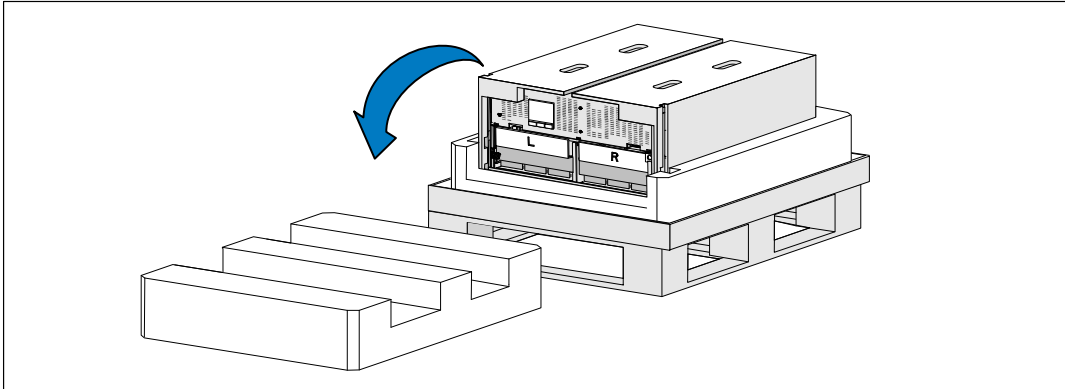

Figure 6. Removing the Top Styrofoam Section
- 4 Remove the top Styrofoam section and set it on a flat, stable surface nearby (see Figure 6).